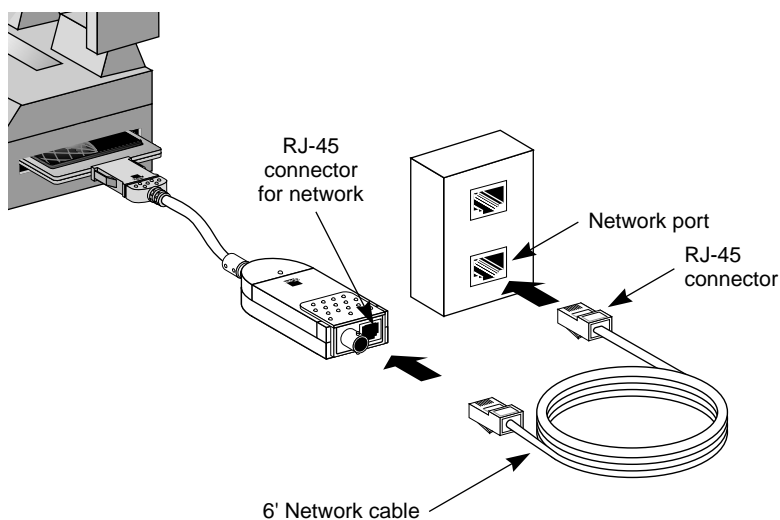

Figure 2-5 Attaching the Network Cable to the Network Port
- 2 To use the RJ-45 connector on the 3C589C-COMBO cable, attach the RJ-45 connector to the network cable and then to the network port, as shown in Figure 2-5.